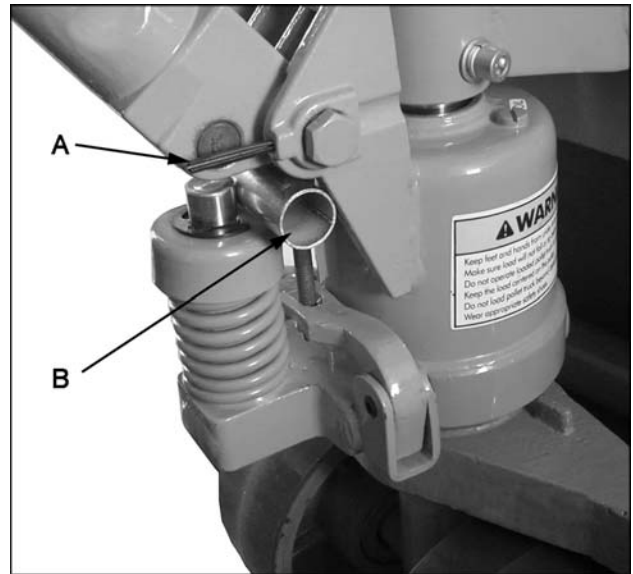

Fig 3
Using a hammer, tap the spring pins (A, Fig. 3) into the pump bracket and handle pins.
7. Pull the handle down and remove the retaining tube (B, Fig. 3) by pulling straight out. Discard retaining tube.